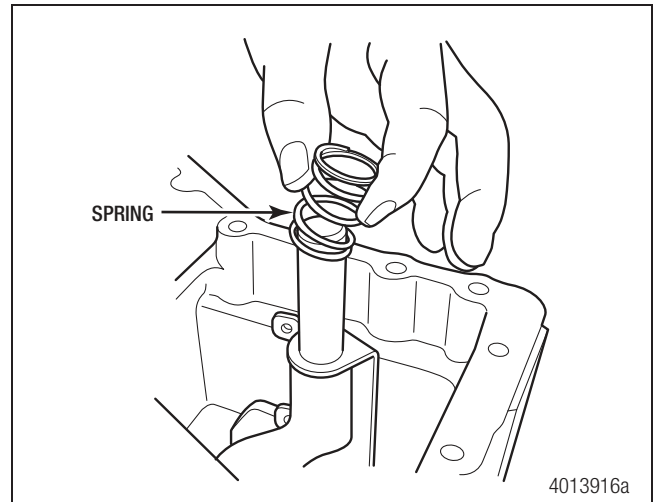

Figure 7.17
9. Install the spring over the shift shaft. Figure 7.17.